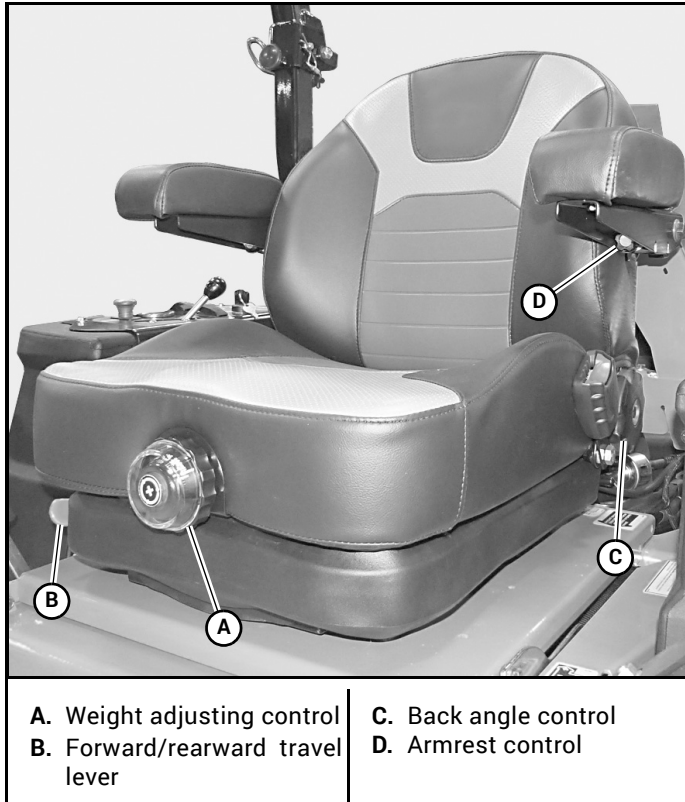

Figure 4-20
1. Weight adjusting control (Figure 4-20)
2. Forward and rearward travel (Figure 4-20)
3. Back angle control (Figure 4-20)
4. Armrest (Figure 4-20)